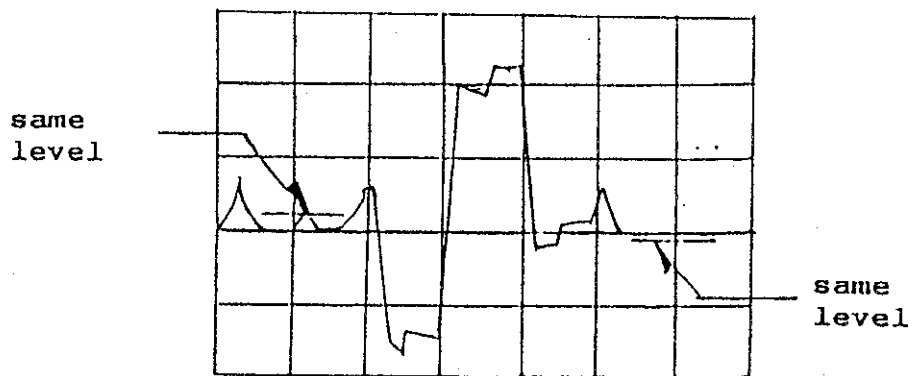

Fig.8
- (1) Receive secam colour Bar signal.
- (2) Connect the osilloscope to TP301.
- (3) Turn T304 to obtain the Fig.8.